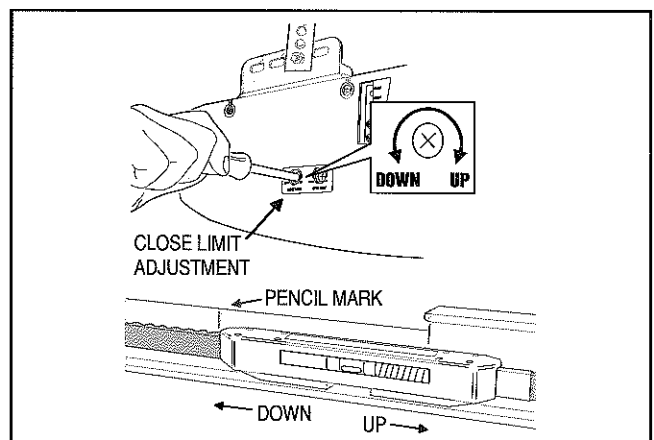

Figure 3B Adjusting the close limit
- E** Adjust the close limit (**Figure 3B**).